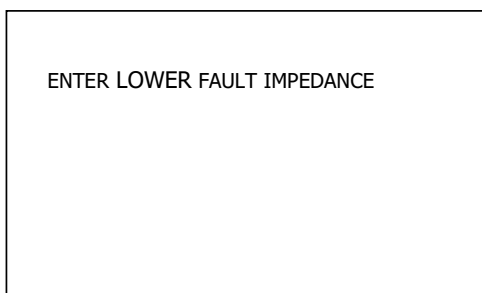

Figure 2-29
Step 4 – Select MINIMUM OHMS by moving the cursor to that line and press any ◀▶ key. This will open a number entry screen as shown in figure 2-29.